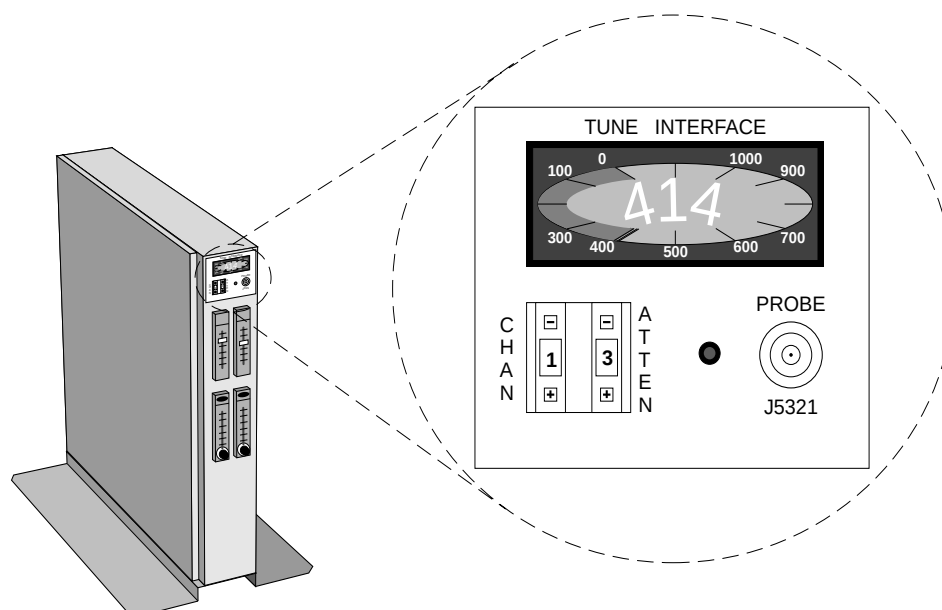

Figure 17. Tune Interface for ^{UNITY}INOVA and UNITYplus 200, 300, and 400 Systems
- For 200-, 300-, and 400-MHz ^{UNITY}INOVA and UNITYplus spectrometers, the tune interface is located on the Magnet-Console Interface, as shown in Figure 17.
- ^{UNITY}INOVA and UNITYplus 200, 300, and 400 systems—disconnect the cable from the H Band CM or B Band CM port on the back of the magnet-console interface and connect it to the PROBE connector (J5321) on the TUNE INTERFACE, which is on the front of the magnet-console interface shown in Figure 17.